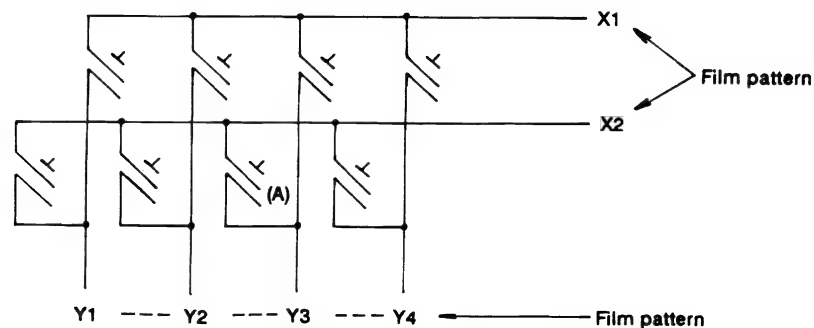

Fig. 2.30 Electrode Wiring
As Fig. 2.30 shows, the electrodes on the board are wired on the matrix (the figure below shows only simplified wiring for ease of explanation and is slightly different from the actual wiring).
Utilizing Fig. 2.30, the outline of keyboard scanning operations is described below. When a key is not pressed, continuity does not exist in any combination on the matrix, such as X1 and Y1 or X1 and Y2. For example, if Key (A) is pressed, continuity will exist only in X2 and Y3 and the others are left in the OFF status. In other words, if continuity exists between X2 and Y3, it means that Key (A) is being pressed.